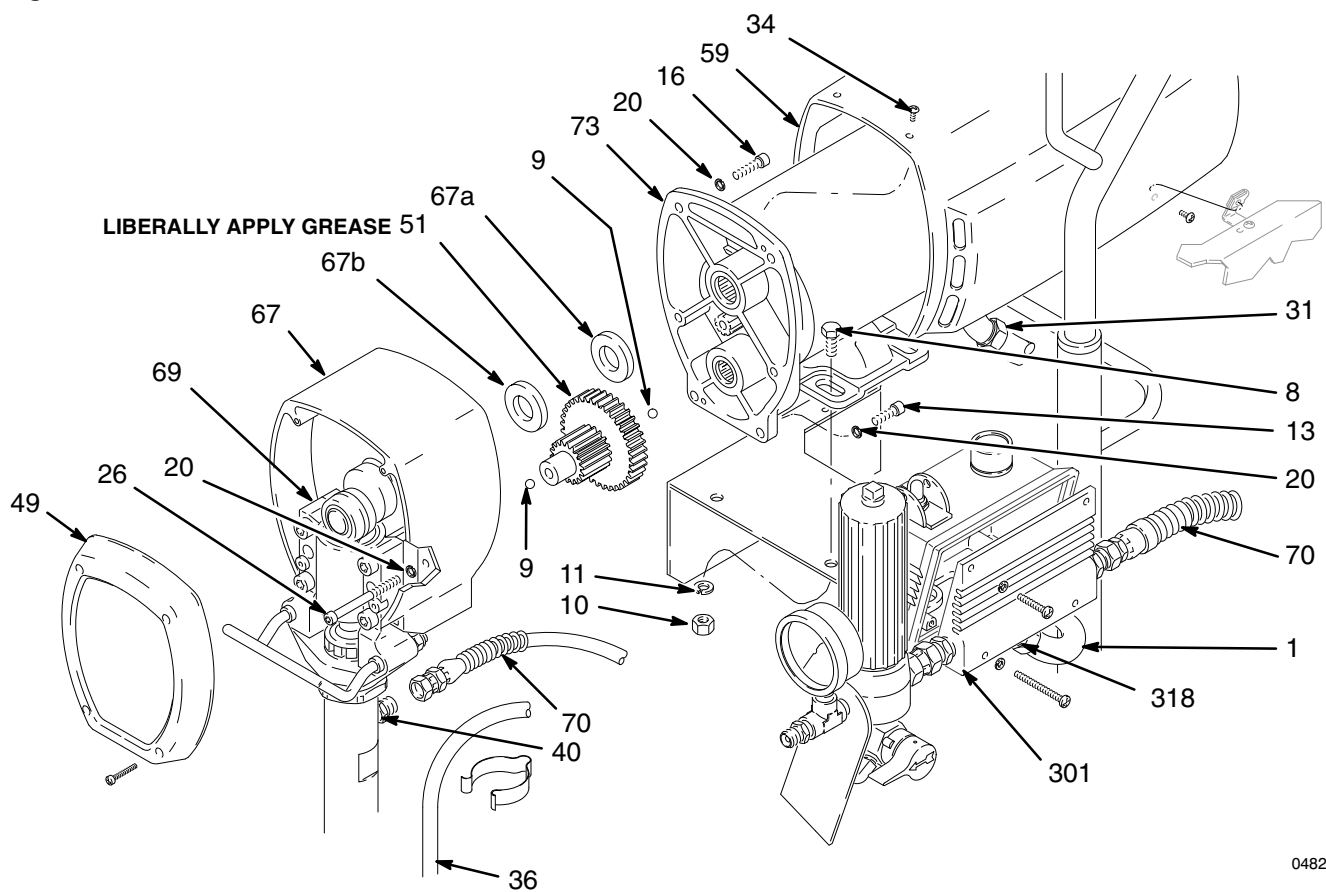

Fig. 22
14. While supporting the motor (73) to keep the sprayer from tipping, remove the four motor mounting screws (8). Lift off the motor.
15. Install the new motor (73).
16. Liberally apply bearing grease to the gear cluster (51). The gear area should have approximately 4 total ounces of grease. Grease is supplied with the drive housing replacement kit. Be sure the thrust balls (9) are in place.
17. Place the bronze-colored washer (67b) and then the silver-colored washer (67a) on the shaft protruding from the big gear in the drive housing (67).
18. Align the gears and push the drive housing (67) straight onto the front of the motor (73) and locating pins.
19. Continue reassembling the sprayer. Use a turning motion on the conduit (1) when feeding wires through it. Install the conduit seal (29) around the wires in the conduit elbow (318) at the pressure control to keep contaminants from entering the motor conduit. See the Detail in Fig. 22.